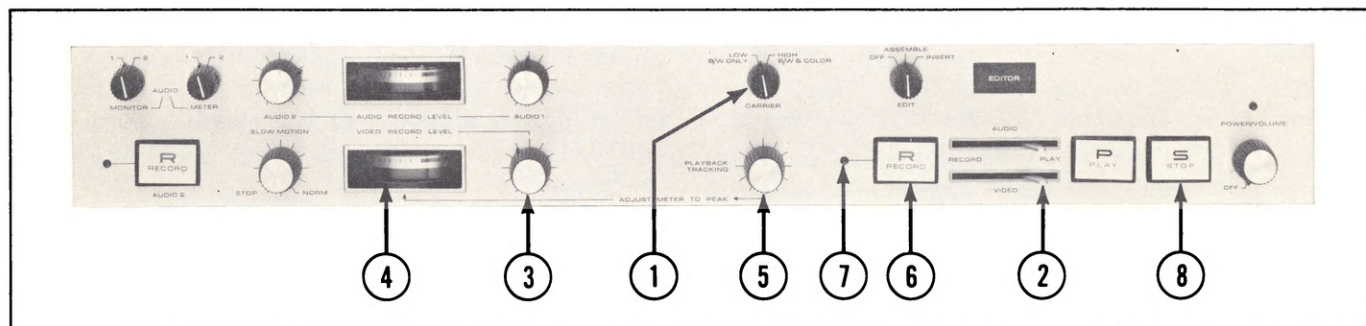

Figure 11 Recording Video Only Operation
3. Place the Carrier selector (item 1, figure 11) in the position that will correspond to the carrier frequency of the unit that will be playing back the tape.
4. Place the Video Record/Play Lever (item 2, figure 11) in the left-hand (RECORD) position. DO NOT move the Audio Record/Play Lever.
5. Adjust the Video Record Level control (item 3, figure 11) for a 100% indication (during peak white scenes) on the Video Record Level meter (item 4, figure 11).
6. Rotate the Playback Tracking control (item 5, figure 11) to the "SET" position. DO NOT rotate or attempt to adjust it once the Main Record button (item 6, figure 11) has been depressed and tape is moving.
7. Depress the Main Record button (item 6, figure 11) to begin tape movement and recording video. The red Record Indicator (item 7, figure 11) will light at this point.
8. To terminate the recording, depress the Stop button (item 8, figure 11). To begin recording again, simply depress the Main Record button (item 6, figure 11).